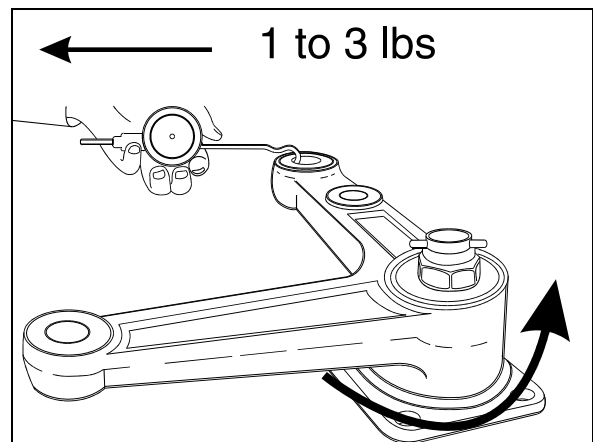

FIGURE 9: BELL CRANK
Install grease seal according to figure 9. Grease must be able to exit the bell crank or idler arm mechanism. For grease seal installation use tool Prévost # 110683.
6. Unscrew nut until bell crank or idler arm starts to turn by the application of 1 to 3 pounds load (Fig. 9).